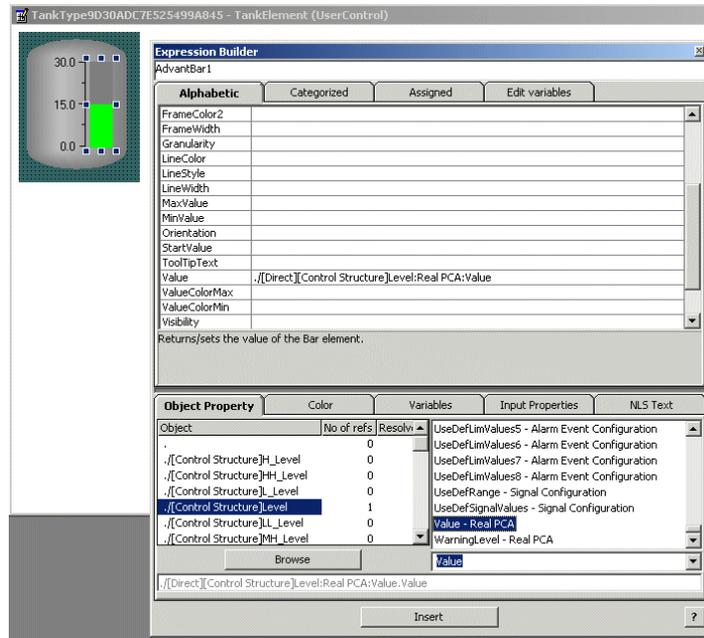

Figure 114. Connecting the Bar Graph
2. Bring up the Expression Builder. See Figure 114.